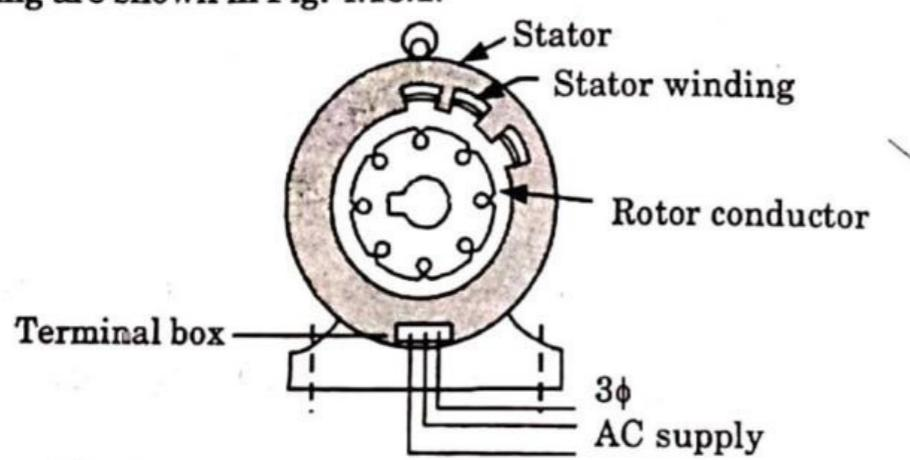

Fig. 4.18.1. Diagram of 3-phase induction motor.
- The stator windings, stator and the AC supply connected to the stator winding are shown in Fig. 4.18.1.